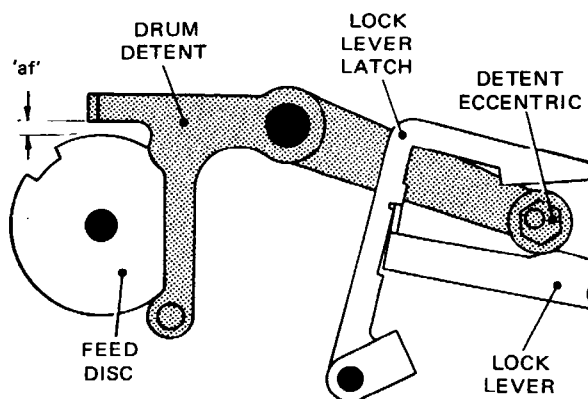

Fig. 4.32 DRUM DETENT/FEED DISC – VERTICAL CLEARANCE
- 35.1 Depress the HERE IS key and turn the feed disc, Fig. 4.32, by the ratchet wheel by hand away from the rest position, as shown. Depress the right-hand end of the drum detent so that the lock lever is engaged with its latch and the detent eccentric is in contact with the lock lever. Check that there is now a vertical clearance of 0.010–0.030 inch (dimension 'af') between the detent and the feed disc.
- 38.1 Set the unit in the rest condition, move the answer-back pawl in the direction shown in Fig. 4.36 until the spindle rests against the end of the answer-back latch as also shown, and check that when the lock lever latch, Fig. 4.32, is moved away from the lock lever and released it returns freely to engage the lock lever.